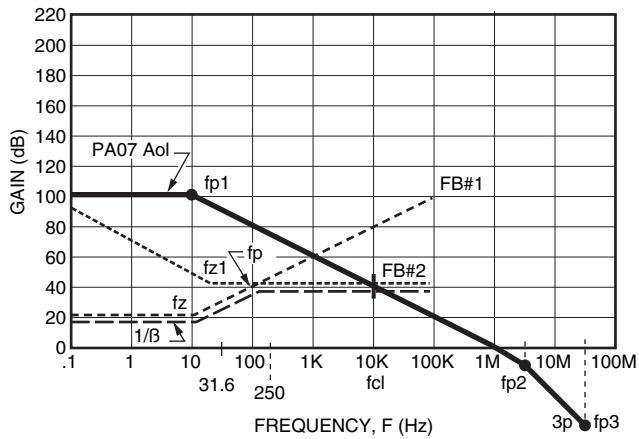

FIGURE 21. FINAL VALUE MAGNITUDE PLOT FOR STABILITY
STEP 5: We need to revisit FB#2 to make this V-I circuit stable. Figure 21 shows a new FB#2 and the resultant $1/\beta$ plot. Before we look at the open loop phase plot, let’s discuss Figure 21. We see that in the PA07 Aol curve there is a pole at f_{p1} , 10Hz, which will be a pole in our open loop phase plot. We also see a zero at f_z , 10Hz, in the $1/\beta$ plot, which will become a pole in our open loop phase plot. Now we have two poles at 10Hz in our open loop